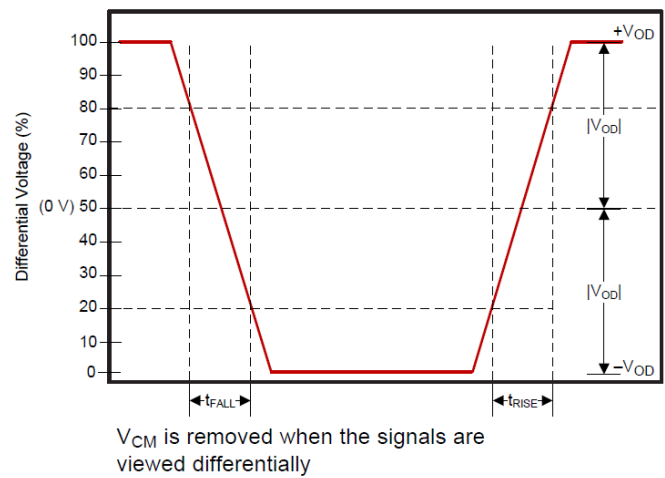

Figure 2. Differential Output Signal
- (2) VOD is the differential voltage measured across a 100- Ω termination resistance connected directly between the transmitter differential pins. $VOD = V_P - V_N$, where P and N are the differential output pins. $|VOD|$ is the magnitude of the peak-to-peak voltage swing across the P and N output pins (see Figure 2). V_{CM} cancels out between signals when measured differentially, thus the reason VOD swings relative to zero.
- (1) Rise and fall times are defined for the differential VOD signal as shown in Figure 2.